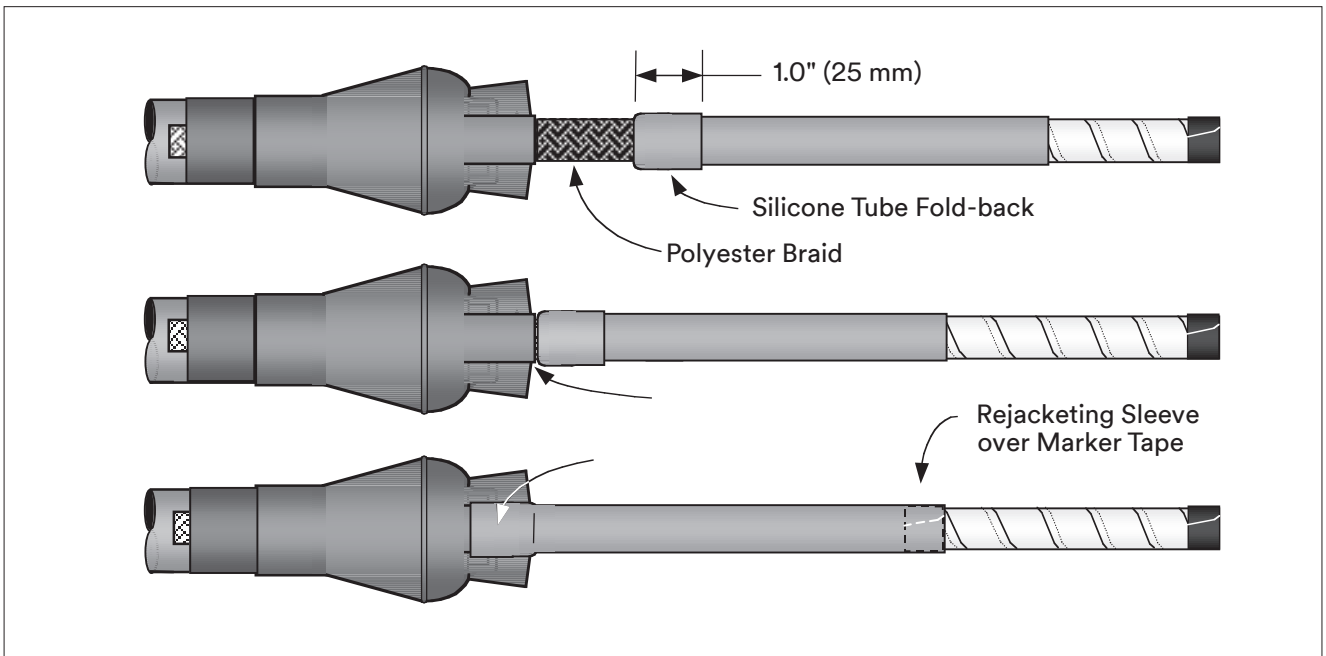

Figure 17
- 5.6 Slide rejacketing sleeve until inner polyester braid is adjacent to breakout boot finger (Figure 17).
- 5.7 Fold outer silicone tubing back on itself for 1.0" (25 mm) (Figure 17) and trim off exposed polyester braid.
- 5.8 Slide rejacketing sleeve assembly down until folded tube contacts edge of breakout boot finger (Figure 17).
- 5.9 Pull folded silicone tube section down onto breakout boot finger (Figure 17).
Note: Rejacketing tube end should align with upper edge of installed marker tape (Figure 17). Minor tube adjustments can be made as needed.